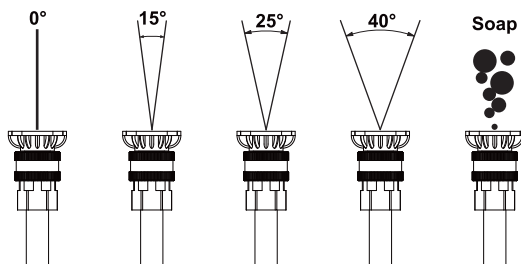

Fig 10
2. Select a spray nozzle according to your cleaning needs. Fig 10